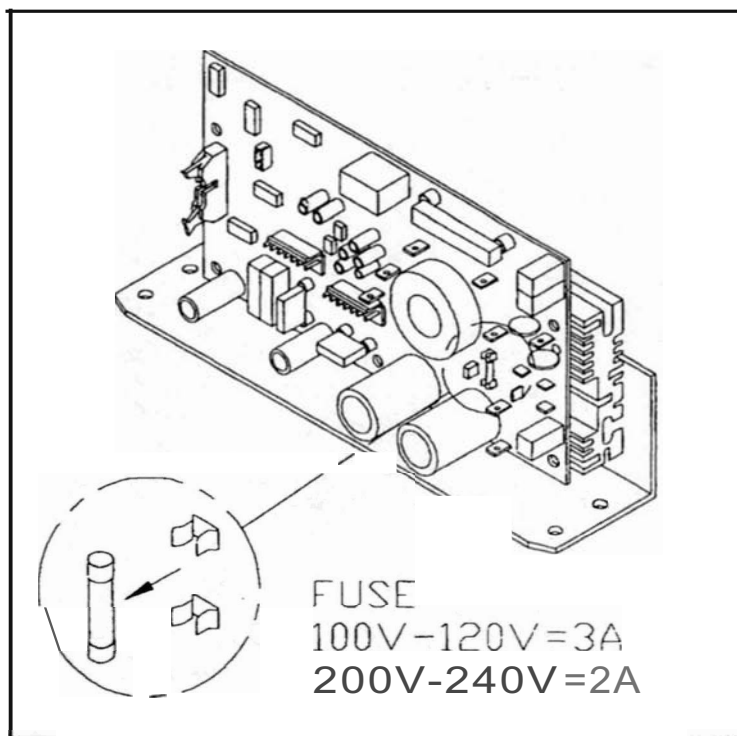

Fig.1
1. Remove faulty 3A fuse(100V - 120V) or 2A fuse(200V - 240V). (see Fig.1)